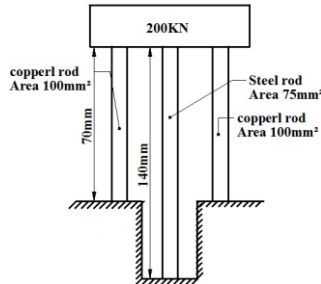

Figure 5
22. Two copper rods and one steel rod together support a load of 200kN as shown in **Figure 5**. Find the stress in the rod. Take  $E_s=2 \times 10^5 \text{ N/mm}^2$  and  $E_c=1 \times 10^5 \text{ N/mm}^2$ .